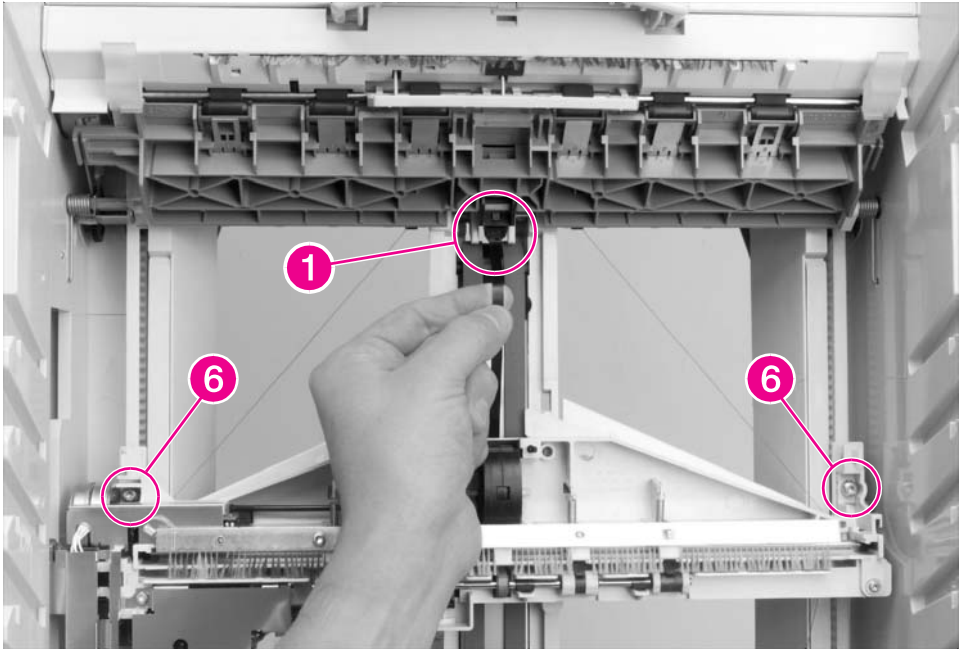

Figure 6-167 8-bin Mailbox Delivery Head Assembly (1 of 4)
- 4 Remove the Delivery Head Assembly from the 8-bin Mailbox frame (see Figure 6-167).
- 3 With the Delivery Head Assembly at the top of the 8-bin Mailbox, hold the Metal Tape near the end, and release the retainer tab that secures the end of the tape to the top of the 8-bin Mailbox frame (Figure 6-167, callout 1). Then let the tape slowly rewind into its housing.
- 8** Hold up the Delivery Head Assembly, and remove the 2 screws that secure it to the elevator mounts: 1 screw on each end of the assembly (Figure 6-167, callout 6). The screw that secures the back end is captive.